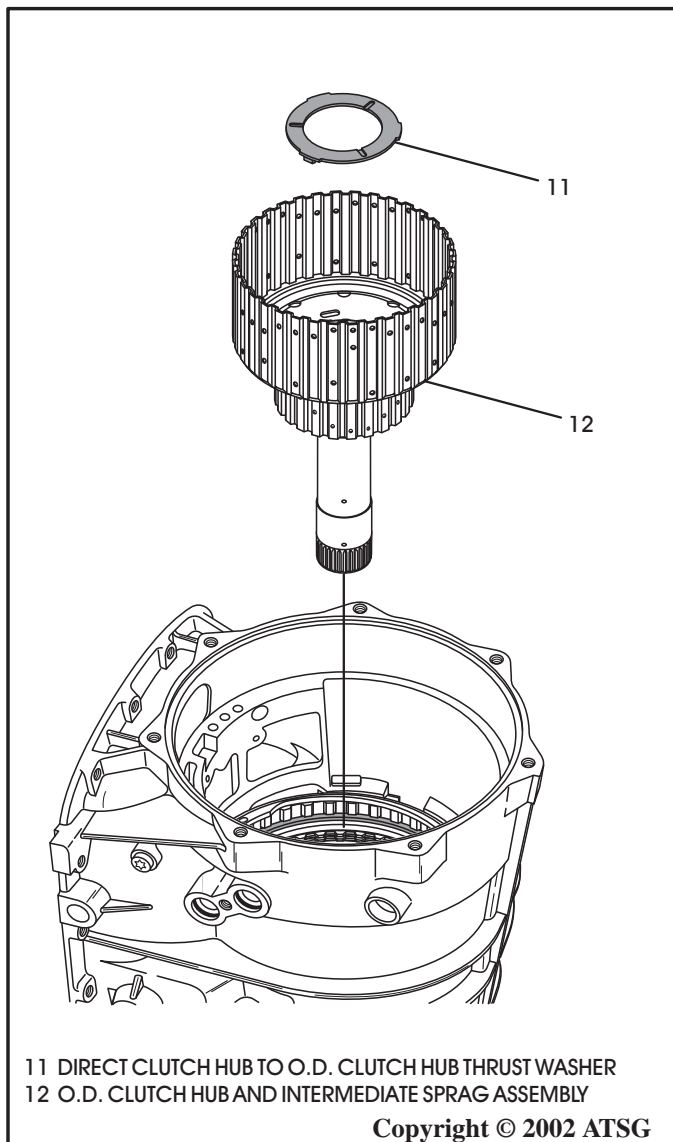

Figure 184
14. Install thrust washer (11) onto the overdrive clutch hub and intermediate sprag assembly as shown in Figure 184, if not already done, and retain with small amount of Trans-Jel®.
15. Install overdrive clutch hub and intermediate sprag assembly, as shown in Figure 184, by rotating back and forth until fully seated and both overdrive and 2nd clutches are engaged.